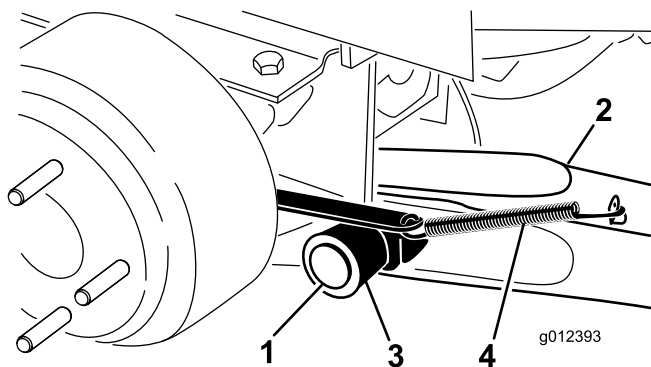

Figure 3
6. Mount a lift arm to the pivot bracket with a pivot pin and a cotter pin (Figure 3). Mount the lift arm with the bend positioned outward.
7. Hook the brake return spring to the tab on the lift arm (Figure 3).